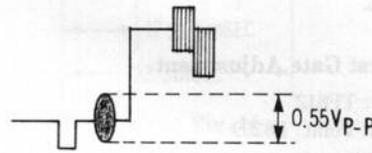

Fig. 41
- Adjust R8231 so that the chrominance output level becomes 0.55 Vp-p as shown in Fig. 41.